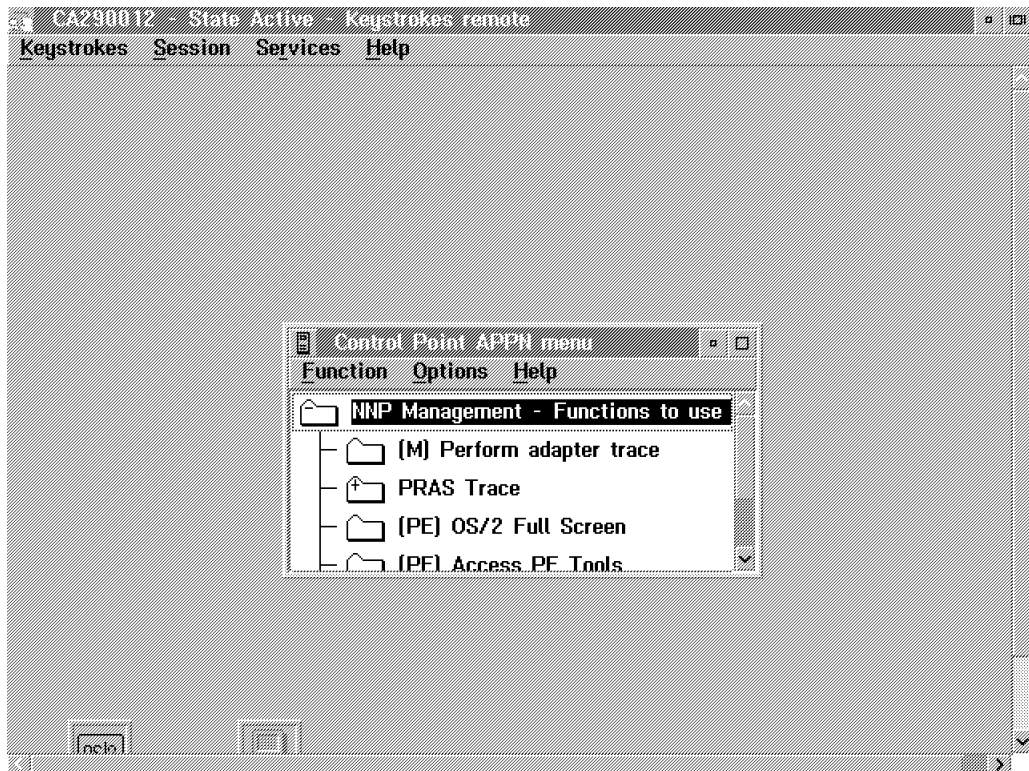

Figure 3-23. NNP Functions
4. On the Connect to an NNP panel in Figure 3-23 on page 3-14, select the NNP (A or B) then click **Connect**.